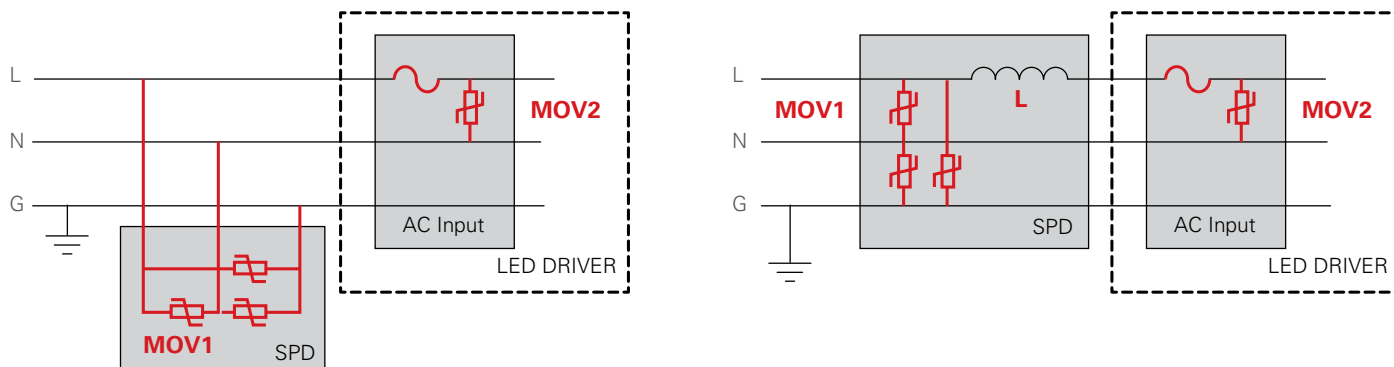

Figure 17. SPD protection schemes that increase the surge immunity of an LED driver.
SPD modules are responsible for protecting luminaires against these high surge levels, which can occur in outdoor lighting environments. The SPDs use 3-4 parallel- or series-connected high-surge-withstand (for example, 25mm or 34mm diameter) MOVs across the AC lines, as shown in the green MOV1 block of **Figure 17**. As shown in that figure, the MOVs are installed from Line to Ground, Neutral to Ground and Line to Neutral. For installations in regions with severe lightning exposure, it is common to use parallel-connected MOVs for the Line to Neutral leg. This will increase differential mode surge capability and the reliability of a luminaire.
6. Refer to the embedded links in the SPD blocks of **Figure 17** for MOV technical information. See the Littelfuse Varistor Ordering Information Diagram for details on constructing a part number.